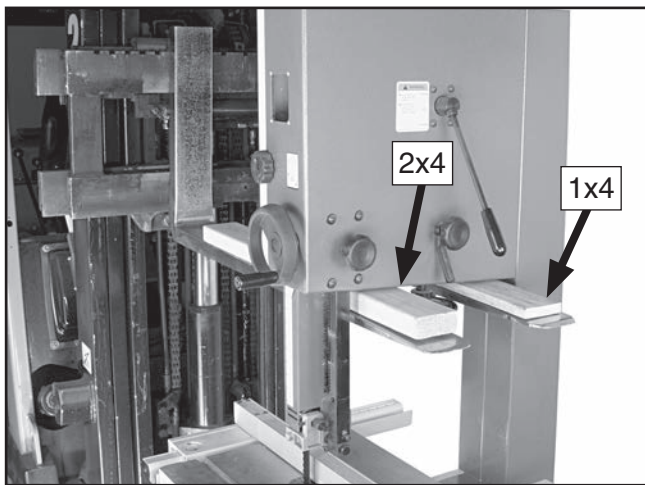

Figure 18. Example of lifting bandsaw with forklift using wood blocks.
3. Carefully place the forklift forks under the head. Insert a 1x4 block between the head and the left fork, and a 2x4 block between the head and right fork so the bandsaw is level, as shown in **Figure 18**.